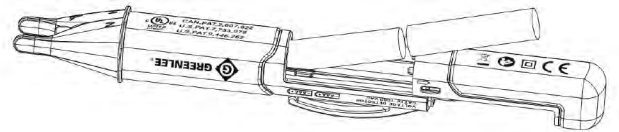

Fig. 3
1. Pull back on the battery door to slide it open and reveal the batteries (Fig. 3).